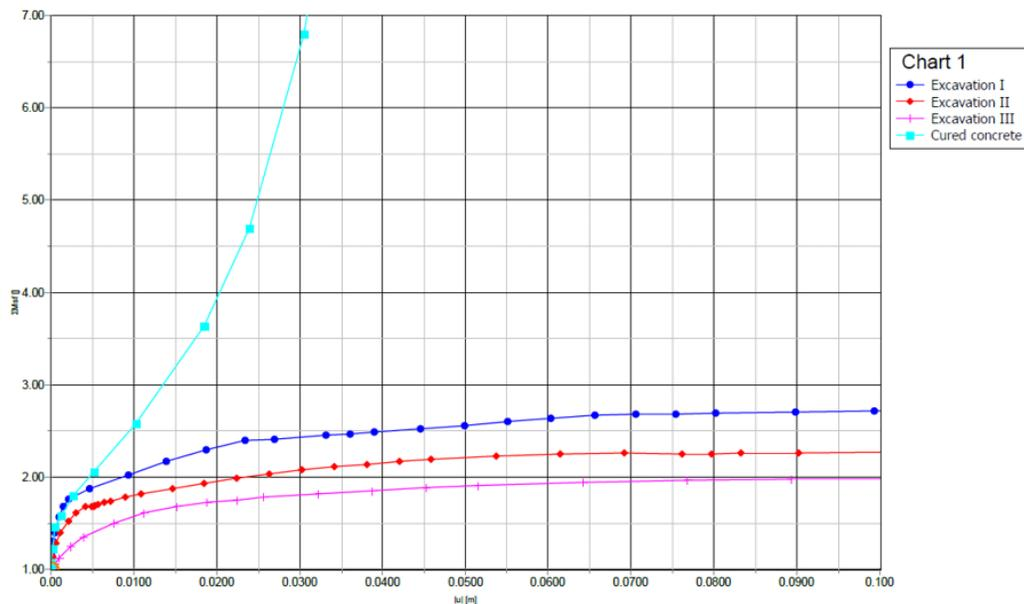

Figure 55: ΣM_{sf} (safety factor) as a function of the total displacement
The stability of the excavation can be evaluated from the calculated safety factor after each excavation stage. Use the Curves program to plot ΣMsf (the safety factor) as a function of the displacements $|u|$ (see Figure 55 (on page 81)). In Phase 3, the stability is the lowest. However, ΣMsf remains greater than 1 and so collapse would not be expected.
4. For the y-axis, select **Project** and then select **Multiplier > ΣMsf** . The Safety phases are considered in the chart. As a result, the curve of Figure 55 (on page 81) appears.